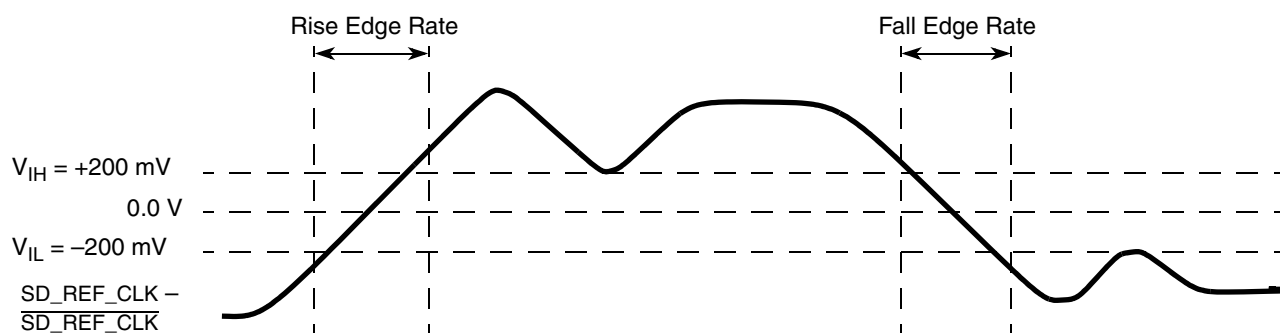

Figure 43. Differential Measurement Points for Rise and Fall Time
The differential waveform is constructed by subtracting the inverting signal ($\overline{\text{SD_TX}}$, for example) from the non-inverting signal (SD_TX , for example) within a differential pair. There is only one signal trace curve in a differential waveform. The voltage represented in the differential waveform is not referenced to ground. See Figure 43 as an example for differential waveform.
- Measured from –200 mV to +200 mV on the differential waveform (derived from SD_REF_CLK minus $\overline{\text{SD_REF_CLK}}$). The signal must be monotonic through the measurement region for rise and fall time. The 400 mV measurement window is centered on the differential zero crossing. See Figure 43.